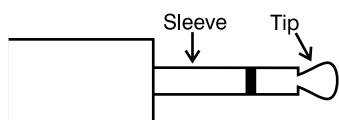

Figure 2. $\frac{1}{8}$ " mono jack
2. Remote Power Control: This removable $\frac{1}{8}$ " mono jack connector serves as the interface between any external control and the Savoy amplifier. If you are not using an external control you DO NOT need to connect power to this plug. See Figure 2.